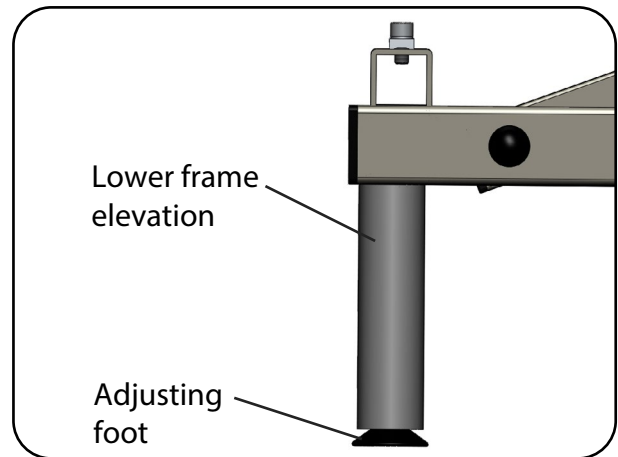

Fig. 6.8.04 - aks B4c with assembled elevation
7. Screw the four lower frame elevations with adjusting feet into the lower frame (Fig. 6.8.04).